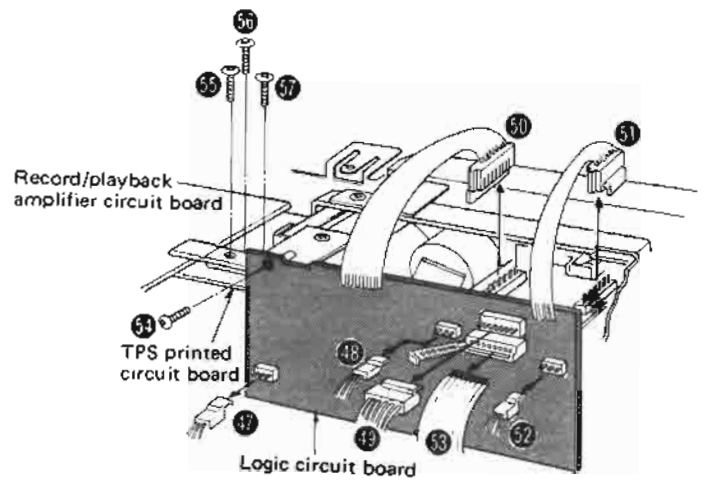

Fig. 11
2. Pull out the 6 sockets (47 ~ 52) and flat cable 53 of Fig. 11.
4. Remove the record/playback amplifier circuit board setscrew (Fig. 11 : 55) and TPS printed circuit board setscrews (Fig. 11 : 56 , 57) .